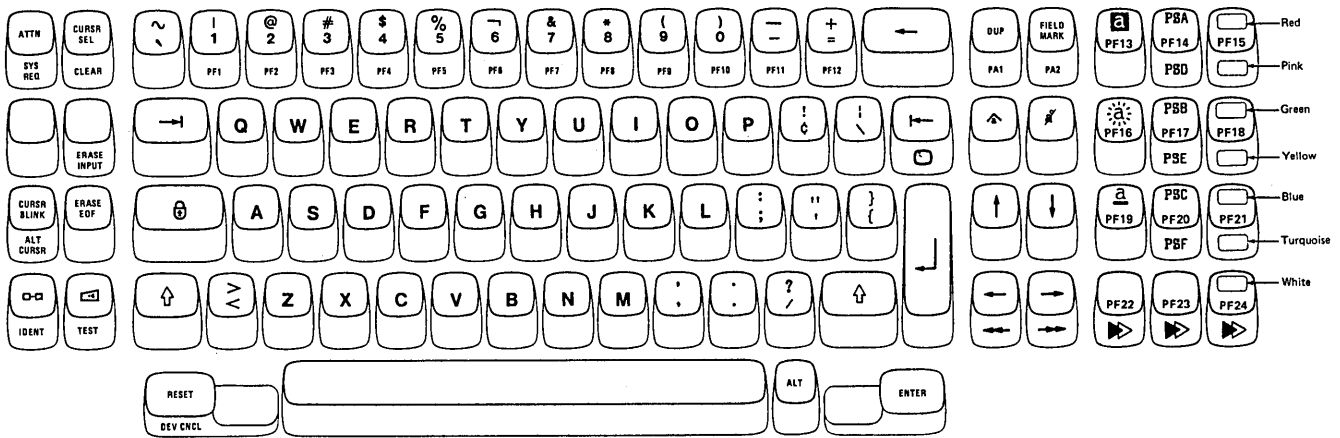

Figure 3-5. Attribute Select Typewriter Keyboard
- The Attribute Select Typewriter keyboard (Figure 3-5)